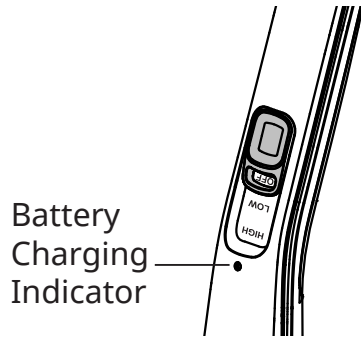

Fig.8
- While the vacuum cleaner is being charged, the battery charge indicator will be flashing continuously until fully charged (Fig.8).